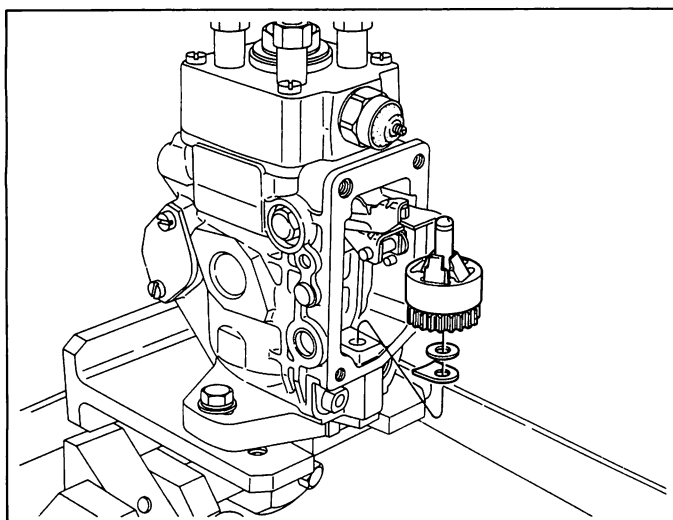

**Fig. 12 Removing the governor shaft**
13. Secure the injection pump upright in the universal vise, loosen the governor shaft (108) using a hexagon wrench and then remove it. (Fig. 12)